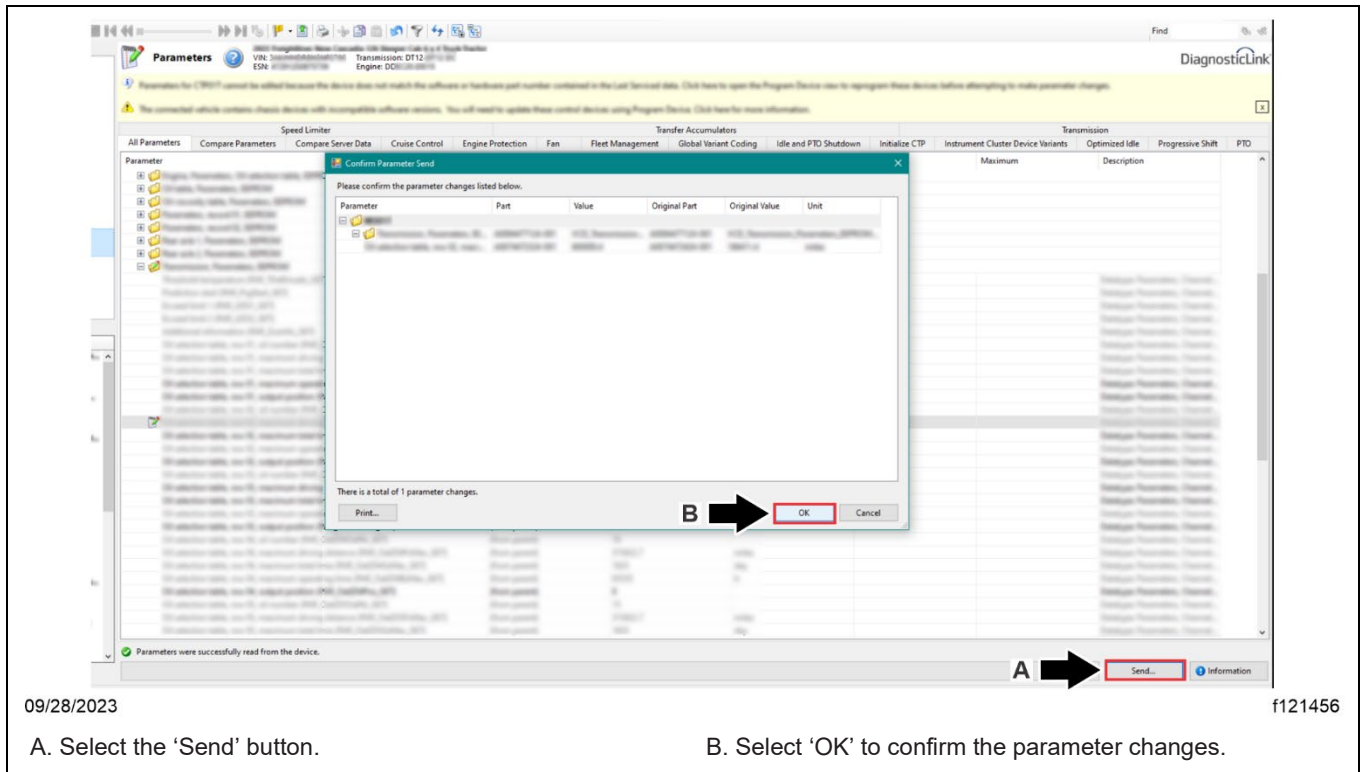

Fig. 8, Writing the Parameter Changes to the Vehicle
23. Select the 'Send' button to write the parameter changes to the CGW04T and ICUC01T ECUs in the vehicle. A window opens asking to confirm the parameter changes; select 'OK.' See Fig. 8.